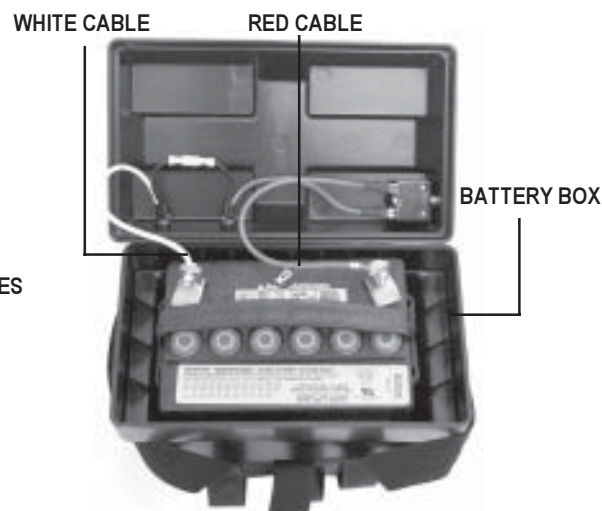

Figure 4. Battery Installation
2. Install each battery into a battery box. See figure 4.